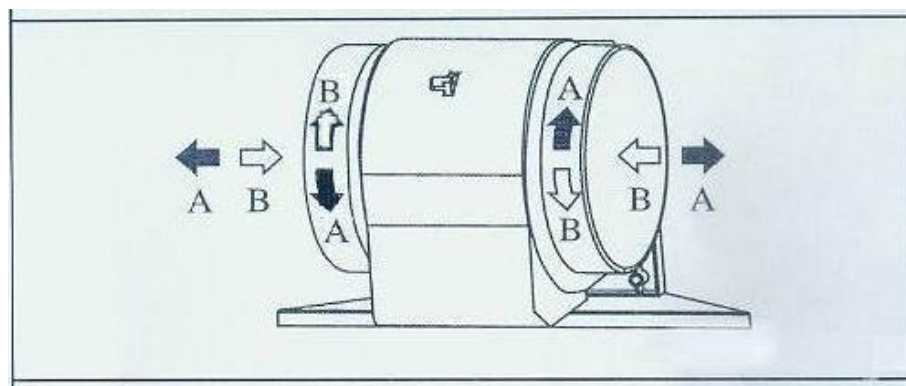

Fig 4
7. This model can be installed as filtered version with optional charcoal filters purchased from manufacturers. Filters can be installed as Fig 4.
1. The filters are not washable nor re-useable and recommended to be replaced every 4 months.(Fig.4)